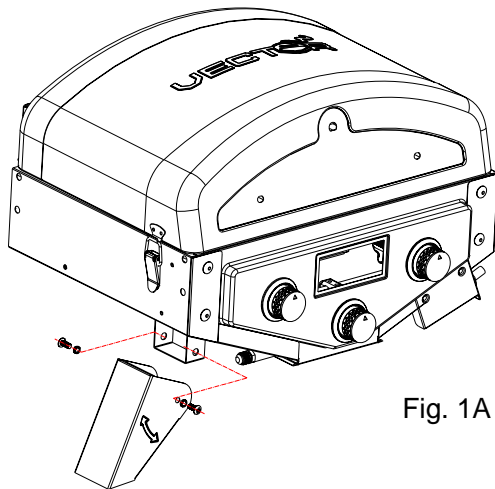
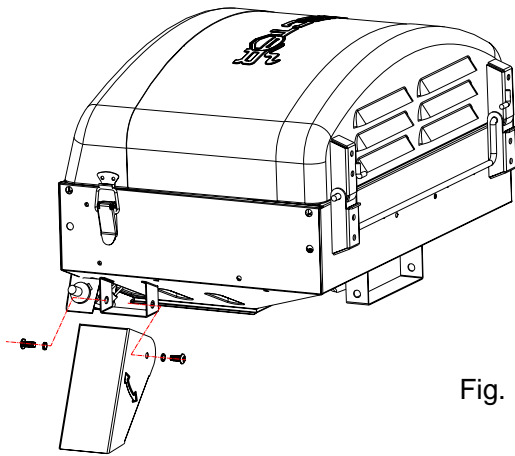

Fig. 1A
Fig. 1B
*Locate:* Grill Lid and Firebox Assembly, (2) Side Supporting Legs, (4) spring washers and (4) M6x12 bolts
*Procedure:* Attach (2) Side Supporting Legs to the Grill Lid and Firebox Assembly using (4) spring washers and (4) M6x12 bolts as shown in Fig. 1A and Fig. 1B.